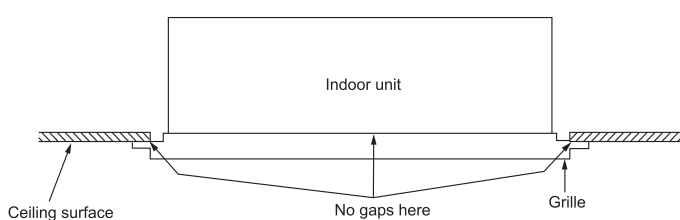

Fig. 6
- Tighten the 4 fixing screws (2) near the corners installed in step 6.
**(Fig. 6)**